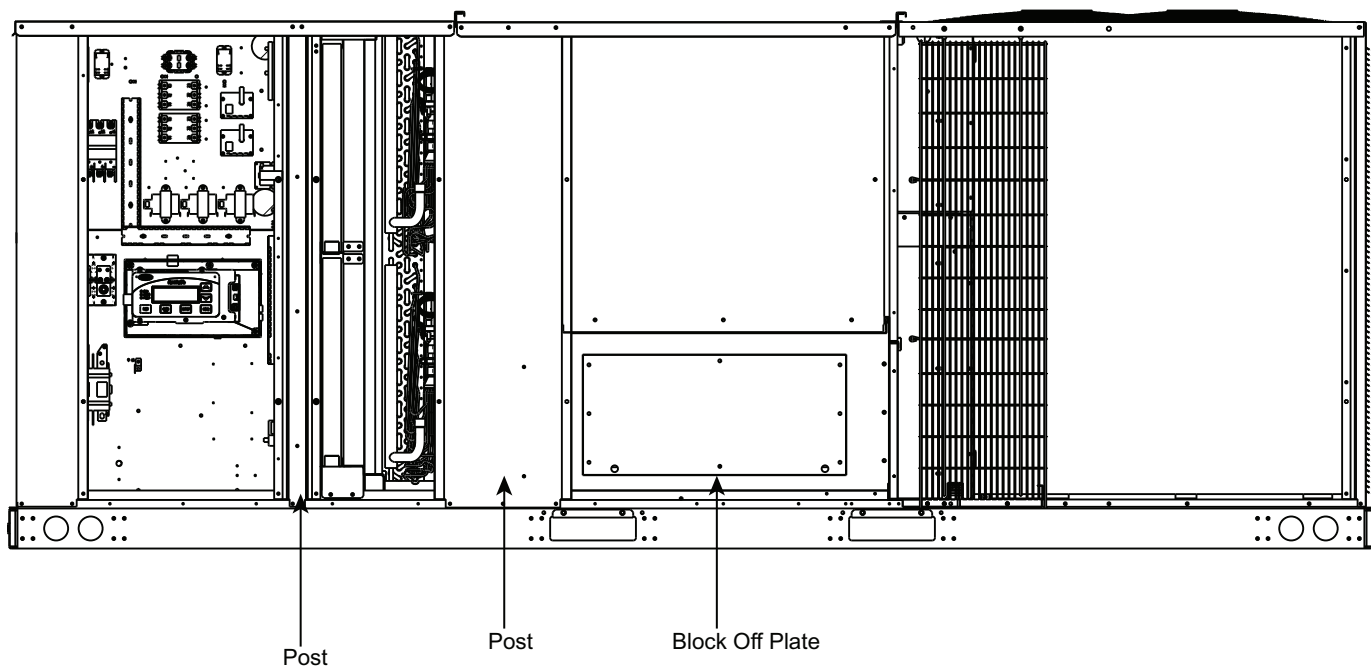

Fig. 49 — Block-Off Plate and Post Locations
3. Remove the block-off plate and save screws. Remove post adjacent to control box and post located between filter access and blower access. (See Fig. 49.)